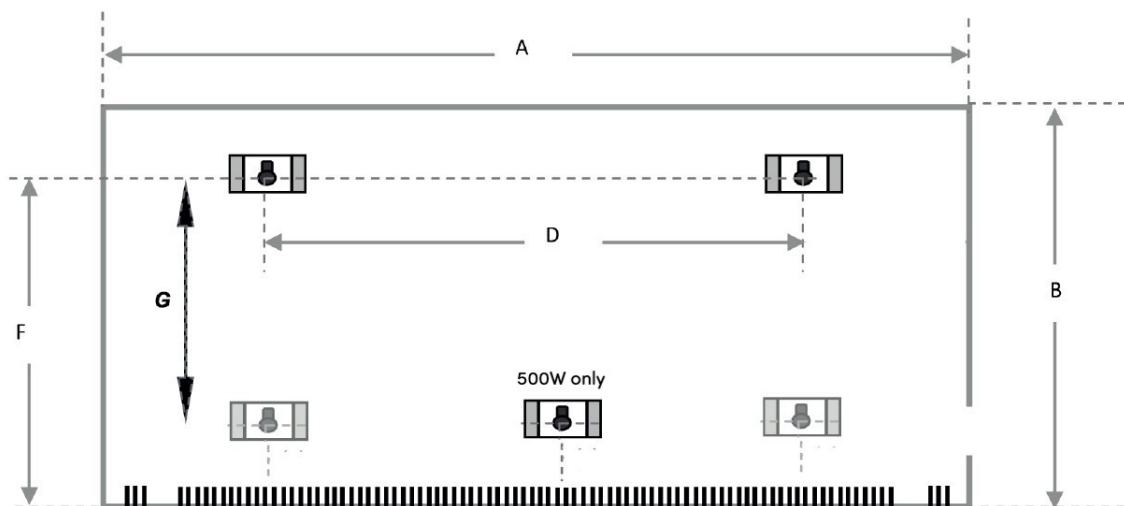

Figure 1 | Drilling locations
3. Drill four holes in the wall as per **Table 3**, **Figure 1** and the drilling template provided with radiator.